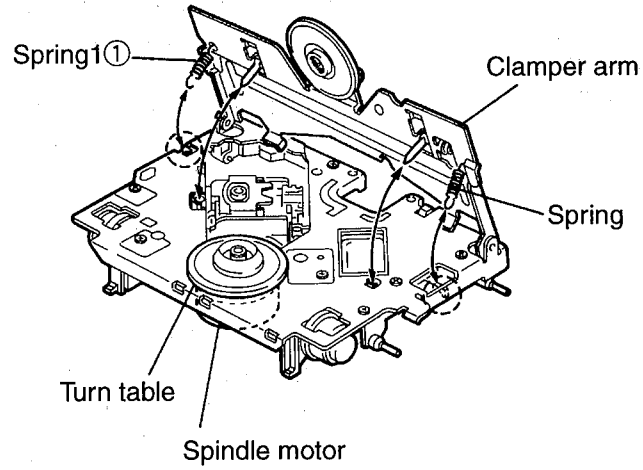

Fig.23
1. After turning back the CD mechanism to initial position, remove the two springs (k) and (1) on both the right and left sides of the clamper arm (See Fig.23 and Fig.24).